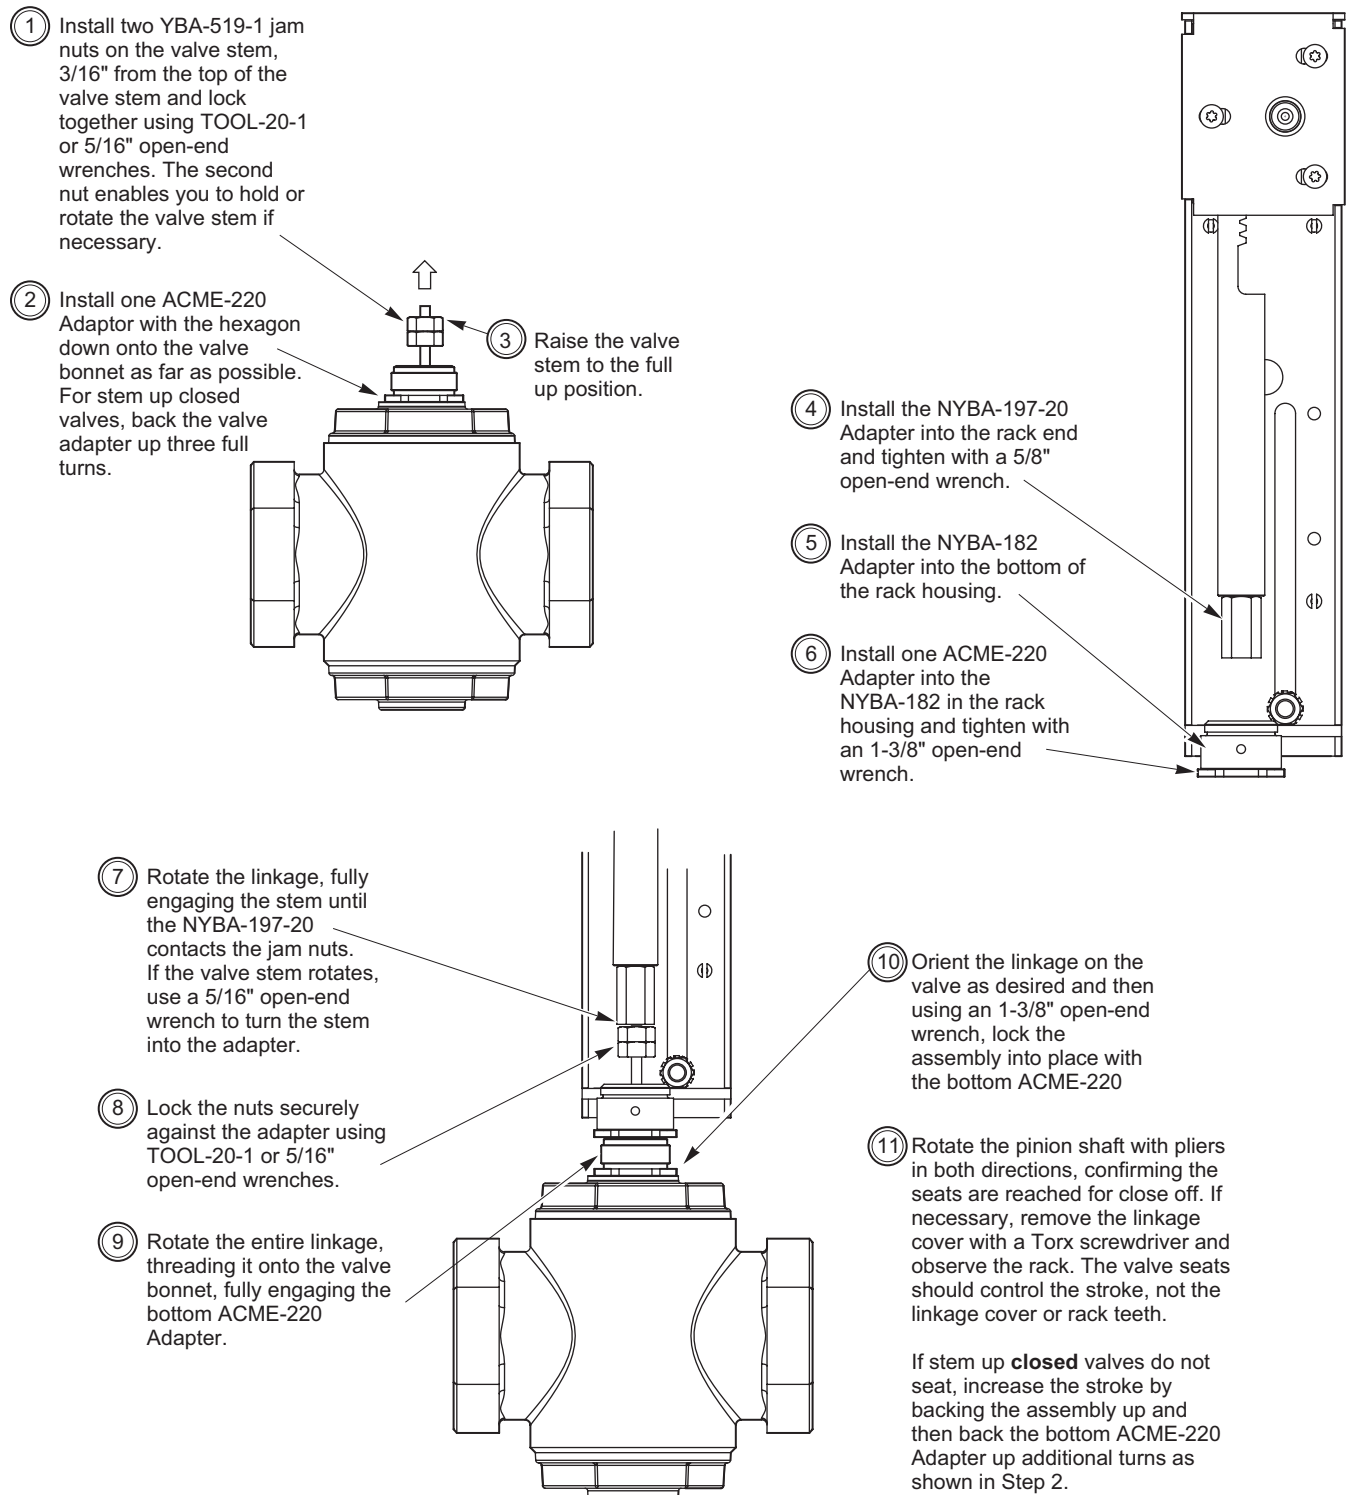

Figure-3 Assembling the AV-607-1 Linkage Onto a Style B Valve Body.
2. Assemble the linkage to the valve, according to Figure-3.